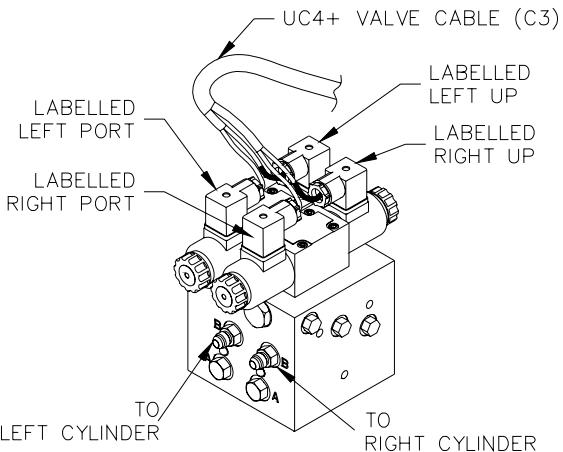

Figure 26 – Valve Cable Connections
14. As shown in **Figure 26**, the connectors on **C03** are marked **RIGHT UP**, **LEFT UP**, **RIGHT PORT** and **LEFT PORT**. Cables labeled with **PORT** go on the side as the hydraulic hoses. **Fasten** with the included rubber seals and screws.